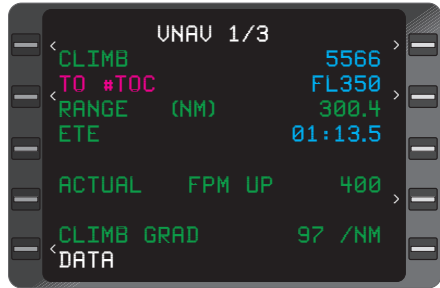
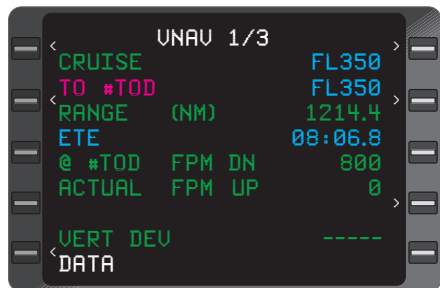
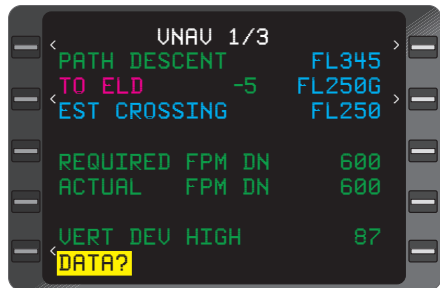

Figure 2-38
Figure 2-39
Figure 2-40
- **CLIMB:** Indicates climb required to cruise altitude or to next altitude restriction. (Figure 2-38)
- **CRUISE:** Indicates holding altitude while enroute to Top of Descent (**#TOD**) point. (Figure 2-39)
- **PATH DESCENT:** Indicates descent via programmed Flight Path Angle. Vertical Deviation will be enabled on the Vertical Deviation needle and the **VERT DEV** field is active. The VERT DEV field will not be displayed if there is no vertical path programmed. (Figure 2-40)
- **#TOC:** Indicates the Top of Climb target altitude. This point becomes the Vertical **TO** Waypoint once the aircraft has passed the final climb constraint waypoint and is climbing. (Figure 2-40)
• **#TOD**: Indicates the Top of Descent target altitude where the aircraft should begin its descent in order to arrive at the Descent Reference Waypoint at the required altitude. (Figure 2-39)
Altitude trajectory computed by the system to the Vertical **TO** waypoint based on current groundspeed and vertical speed (Figure 2-40). This field will display **RANGE (NM)** in miles and tenths when the Vertical **TO** Waypoint is a **#TOD** or **#TOC** profile point. (Figure 2-39)
The estimated time enroute in hours, minutes and tenths, from the aircraft present position to the Vertical **TO** Waypoint **#TOC** or **#TOD**. (Figure 2-39)
Required vertical speed in feet per minute to make the altitude constraint based on current ground speed. **UP** indicates a positive vertical speed and **DN** indicates a negative vertical speed (Figure 2-40). This field will display **@#TOD FPM DN** when the Vertical **TO** Waypoint is the Top of Descent and indicate the descent target vertical speed. (Figure 2-39)
Actual vertical speed in feet per minute. **UP** indicates a positive vertical speed and **DN** indicates a negative vertical speed. (Figures 2-39 and 2-40)
Vertical deviation of aircraft from this descent path in feet. **HIGH** indicates aircraft is above the path (Figure 2-40); **LOW** indicates aircraft is below path. **CLIMB GRAD xxx/NM** is displayed during **CLIMB** mode to indicate current aircraft climb performance in feet per nautical mile. (Figure 2-38)
A prompt to access the **VNAV DATA** Page, by placing the cursor over the **DATA** field and pressing the **ENTER** Key. (Figure 2-40)